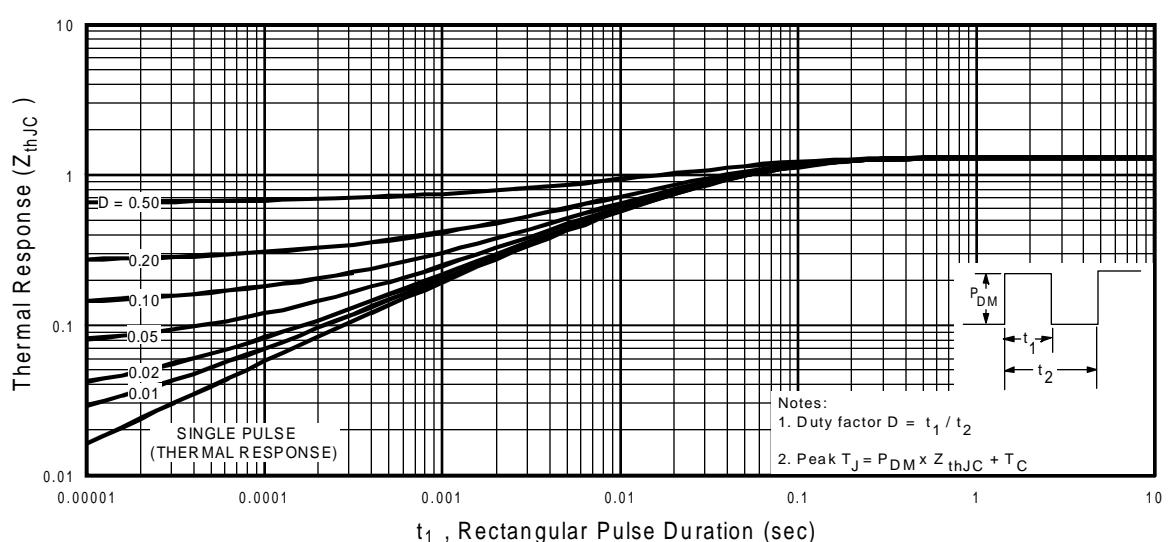

Fig 11. Maximum Effective Transient Thermal Impedance, Junction-to-Case
① Repetitive rating; pulse width limited by max. junction temperature. (See fig. 11)
② $V_{DD} = 15V$, starting $T_J = 25^\circ\text{C}$, $L = 220\mu\text{H}$